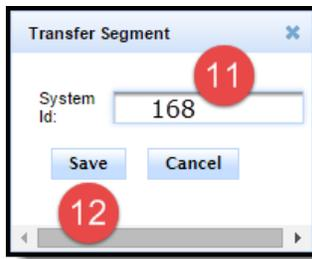

Figure 69: Transfer Segment, Steps 11 to 12
10. Click **Transfer** on the dropdown. The **Transfer Segment** pop-up window appears, as depicted in Figure 69.